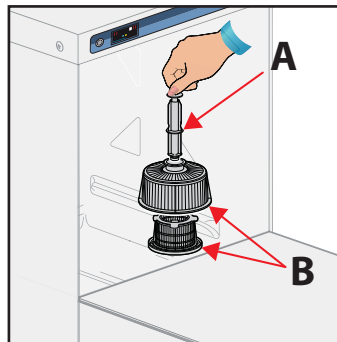

Fig.2
9. Firstly remove any (food) particles from the base of the wash tank and only then remove the pump filters (B) Fig.2 and clean under running water. Make sure that no particles fall into the pump opening, as this could lead to pump damage. Once they are clean refit the filters and a self-cleaning/rinsing cycle can be initiated. While in STAND-BY (10), press the START button (2) for 5 seconds and the cycle will run for 15 seconds and return to STAND-BY. Press the drain switch (3) again. When the pump stops: **DO NOT FORGET TO REFIT THE OVERFLOW PIPE.**